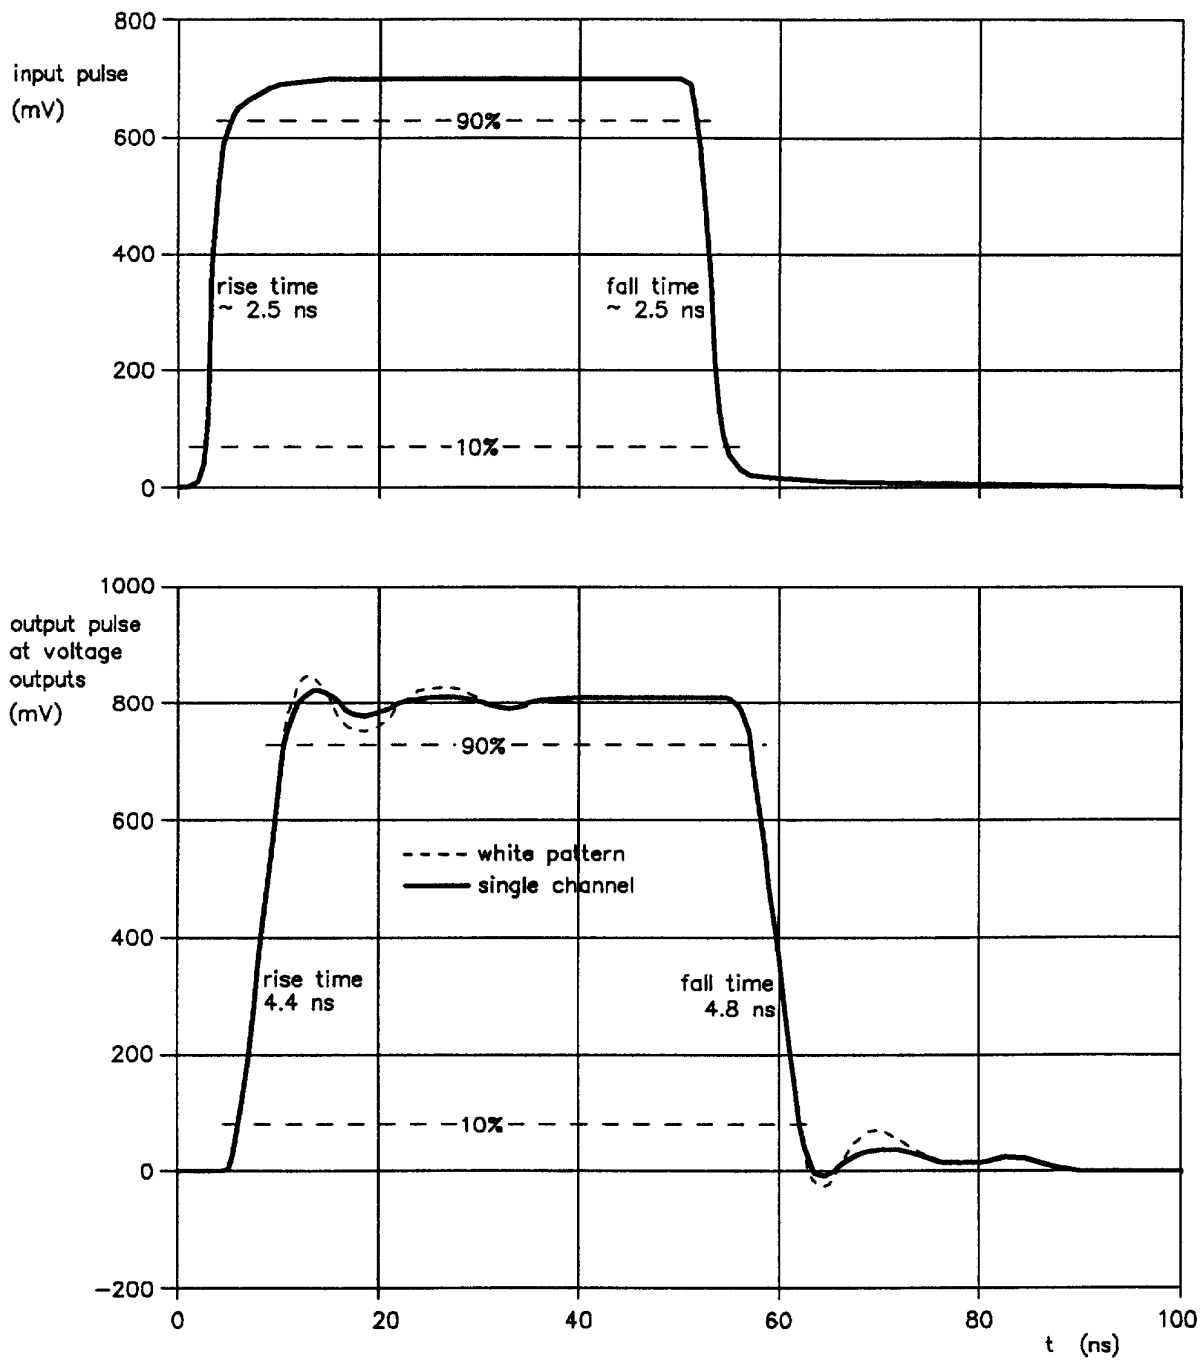
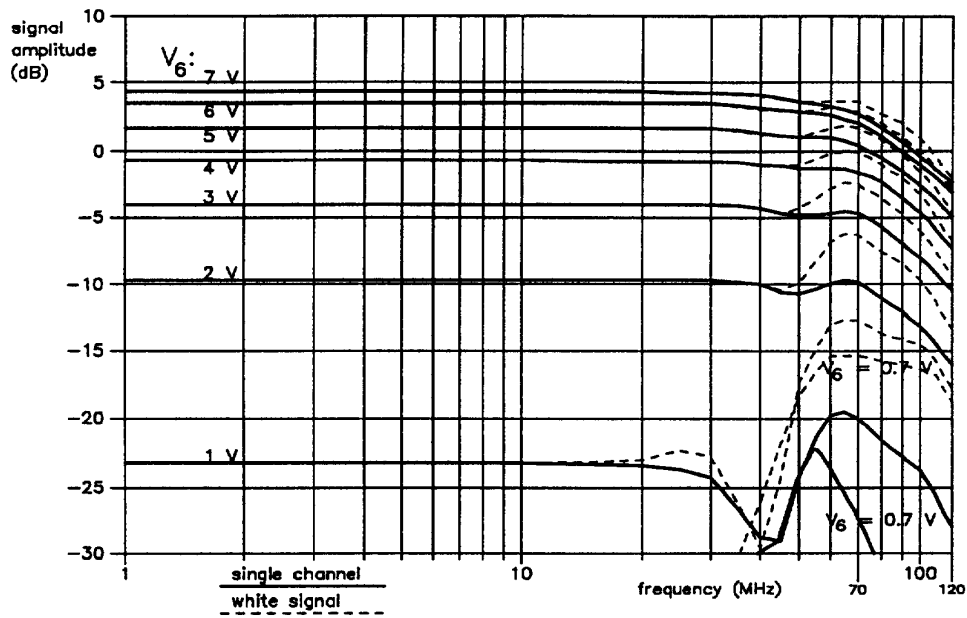

Fig.11 Typical pulse response.
Fig.12 Typical characteristic of contrast control versus frequency.
14. Frequency response, crosstalk and pulse response have been measured at voltage outputs in a special printed-circuit board with 50 Ω line in/out connections and without peaking (see TEST PCB). Typical frequency response see Fig.10, typical pulse response see Fig.11 and typical characteristic of contrast control versus frequency see Fig.12.